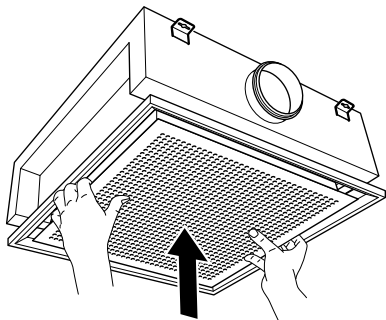

FIGURE 25
- 4) Once everything is adjusted, push the front plate back up into place. (See **FIGURE 25**).